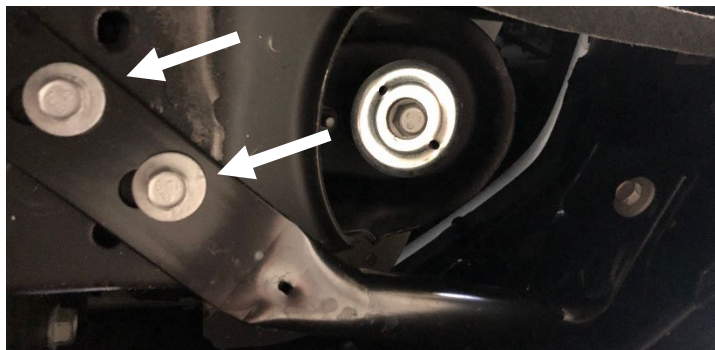

Figure 9
9. From under the truck: use a 15mm socket wrench to remove the two (2) back bolts on the bumper support bracket on both sides. (Figure 9)